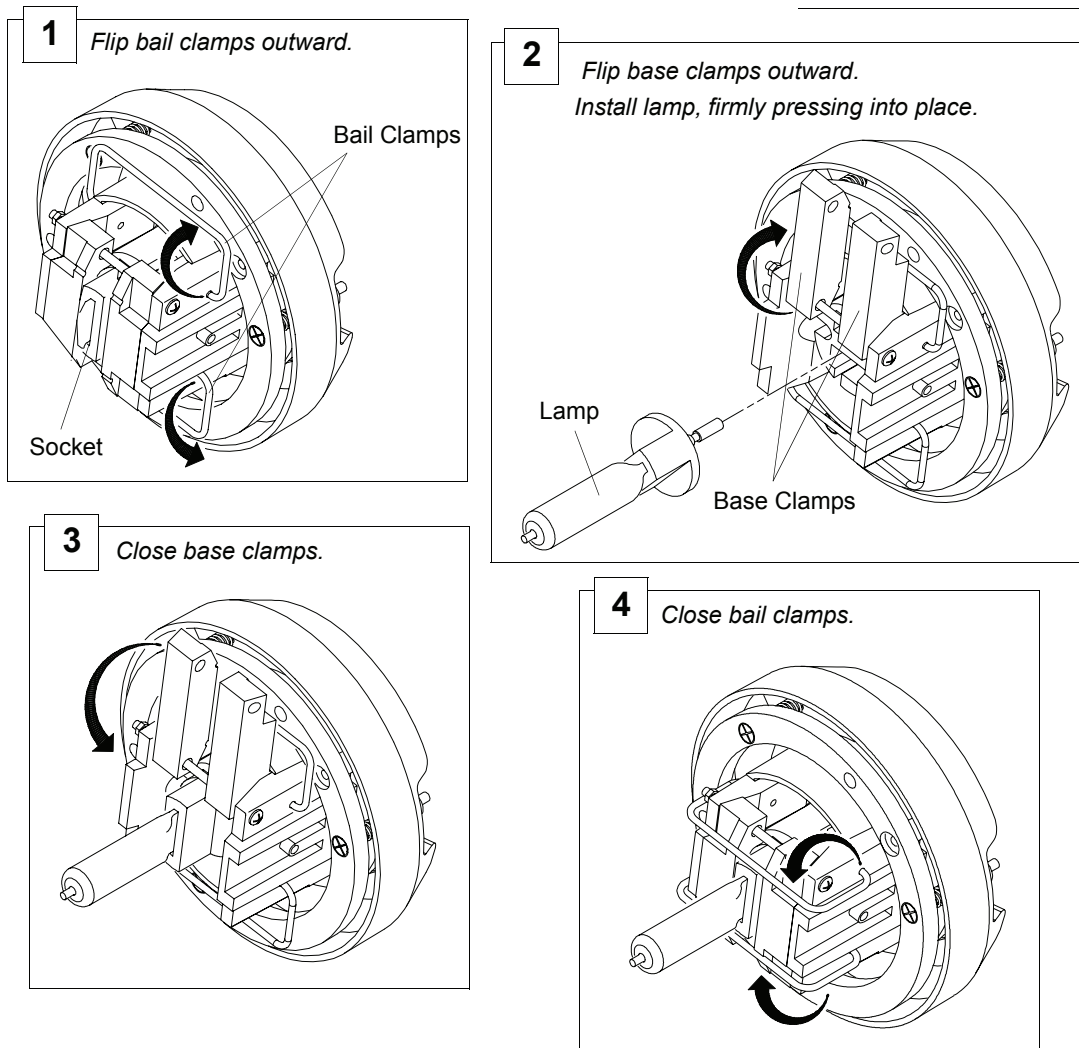

Figure 2-5: Installing Incandescent Lamp in Socket
- Step 3. At backcap, flip two bail clamps outward (Figure 2-5).